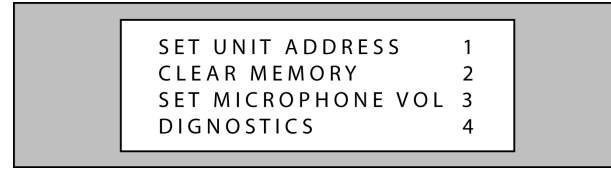

Figure 3: Reset Menu
3. Release the S1 button. The LCD on the front panel will display the Reset Menu (see Figure 3). From this menu you may perform different tasks such as set the controller's address, clear the controllers' memory, set the microphone gain, and check diagnostics.